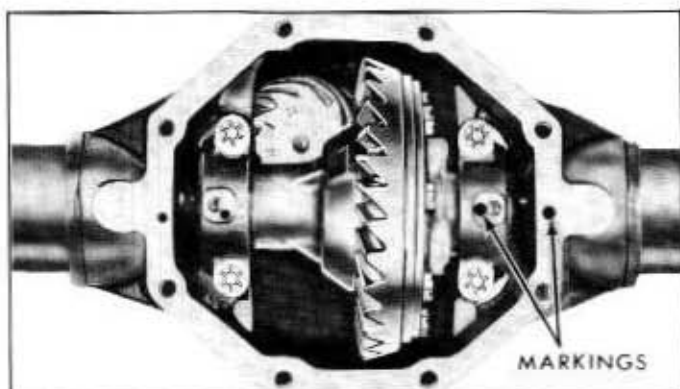

Fig. 4-18—Differential Bearing Cap Marking—(60C-5208)
2. Mark one differential bearing cap and the case to help position the parts properly during assembly. See figure 4-18.